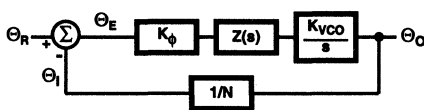
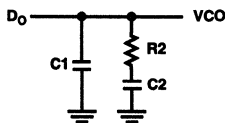

FIGURE 21. PLL LINEAR MODEL
FIGURE 22. PASSIVE LOOP FILTER
A linear control system model of the phase feedback for a PLL in the locked state is shown in Figure 21. The open loop gain is the product of the phase comparator gain (K_ϕ), the VCO gain (K_{VCO}/s), and the loop filter gain $Z(s)$ divided by the gain of the feedback counter modulus (N). The passive loop filter configuration used is displayed in Figure 22, while the complex impedance of the filter is given in Equation 2.